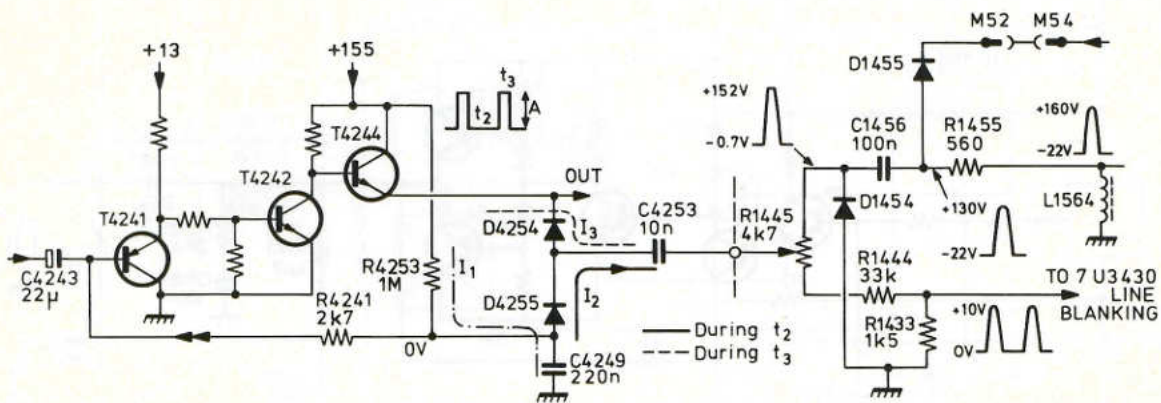

Fig. 31
**b. D.C. stabilising circuit (Fig. 31)**